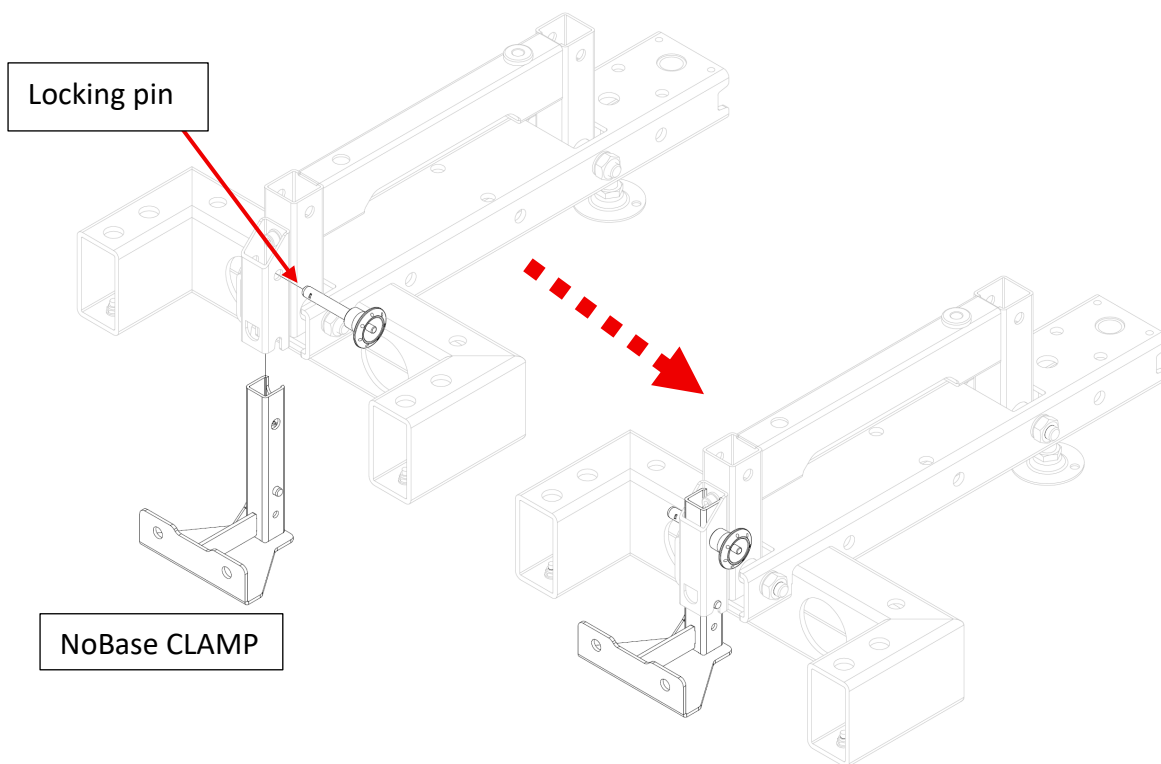

Figure 38 Detail mounting NoBase CLAMP to SKI
Step 3: Fix the NoBase CLAMP to the NoBase SKI by sliding the SKI from the top over the CLAMP. Secure the CLAMP to the SKI with the provided locking pin. See also Figure 38 Detail mounting NoBase CLAMP to SKI.